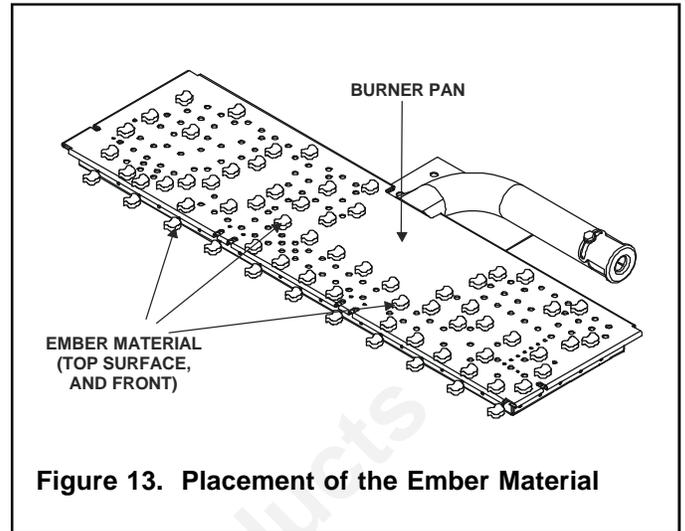

Figure 13. Placement of the Ember Material
- Place a dime size piece of **GLOWING EMBER** material near port holes in burner top, sides and front (see Figure 13).